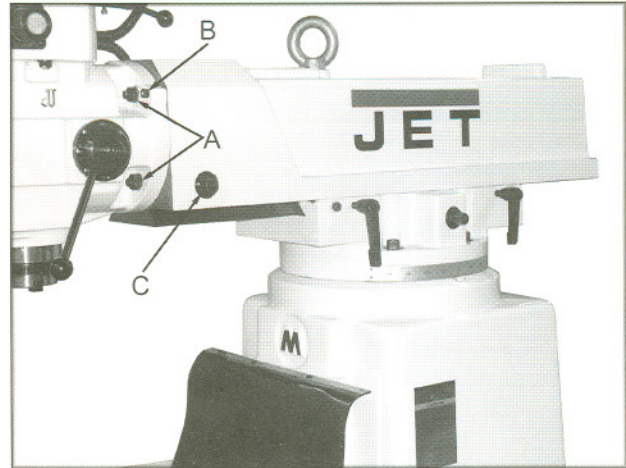

Fig. 10
1. Loosen four nuts (A, Fig. 10) with a 22mm wrench, just enough to allow the head to pivot into position. **Do not** remove the nuts; just break the nuts loose.
3. Gently tap the pin into the hole while slightly rocking the hex head of the worm shaft (C, Fig. 10) back and forth.
1. Remove the pin (B, Fig. 10) by tightening the nut.
2. Loosen four nuts, (A, Fig. 10) with a 22mm wrench, just enough to allow the head to move into position. **Do not** remove the nuts; just break the nuts loose.
3. Turn the hex head of the worm shaft (C, Fig. 10) using a 19mm socket and breaker bar. Pivot the head aligning the scale marks to the desired angle.
4. Tighten the four bolts (A, Fig. 10).